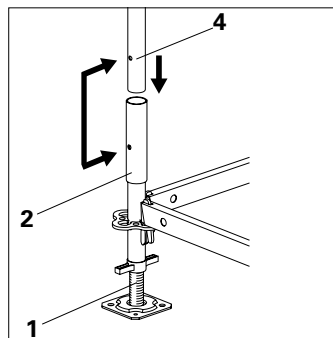

Fig. A2.07
1. Insert Standard UVR (4) into the Base Standard UVB 24 (2). (Fig. A2.07)
2. Align the insert holes with each other. (Fig. A2.07)